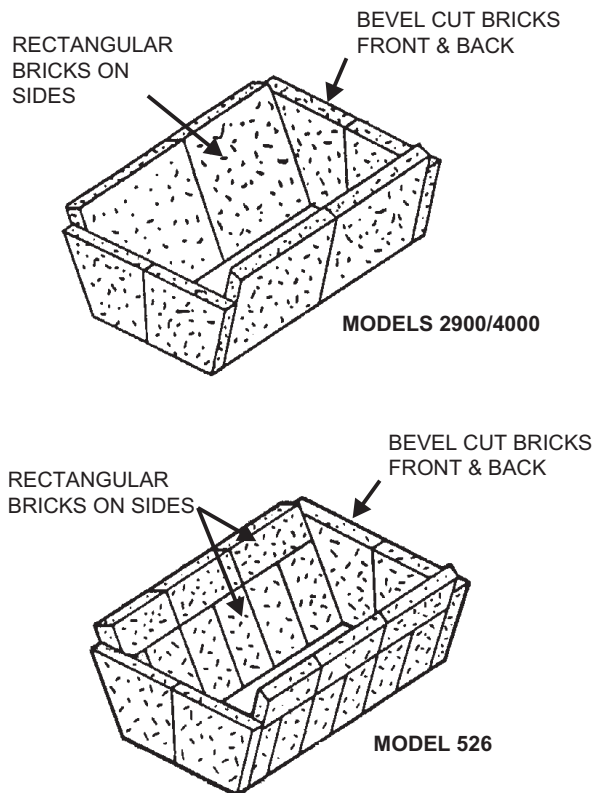

FIGURE 17 INSTALL FIREBRICK
1. Place two longer bricks with bevel cuts against the rear wall of the firebox. See figure 17.